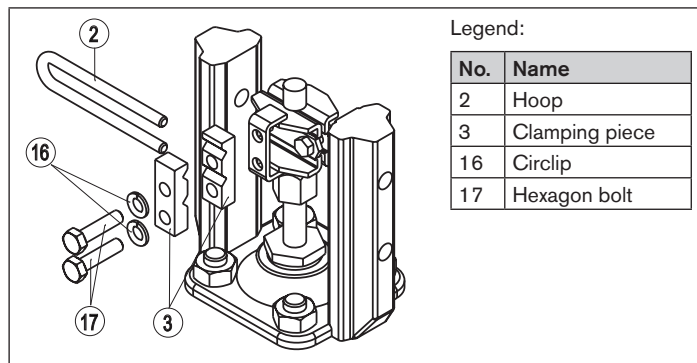

Fig. 25: Attaching the hoop
**!** The conical roller ⑤ on the lever ⑥ of the position sensor must be able to move freely in the hoop (refer to “Fig. 25: Attaching the hoop”) along the entire stroke range of the actuator.